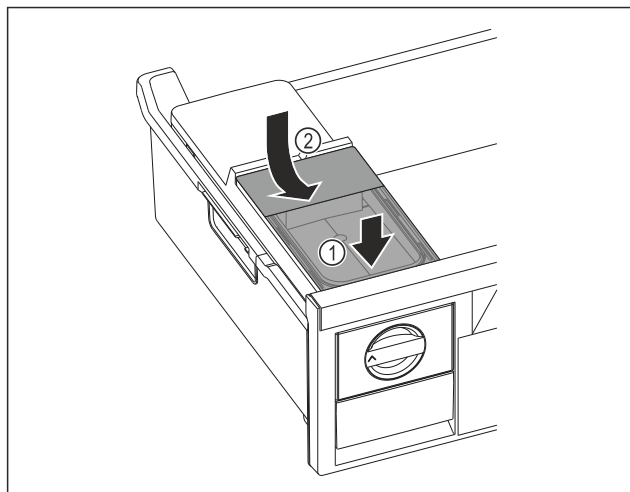

Fig. 157
- Position the water tank at the front. Fig. 157 (1)
- Lower the water tank at the rear. Fig. 157 (2)